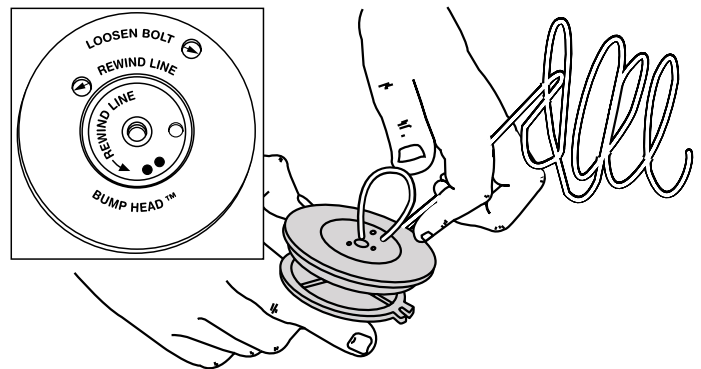

Fig. 14
6. Take approximately 25 feet (7.6 m) of new 0.095 inch diameter trimming line, loop it into two equal lengths. Insert each end of the line through one of the two holes in the inner reel (Fig. 14). Pull the line through the inner reel so that the loop is as small as possible.